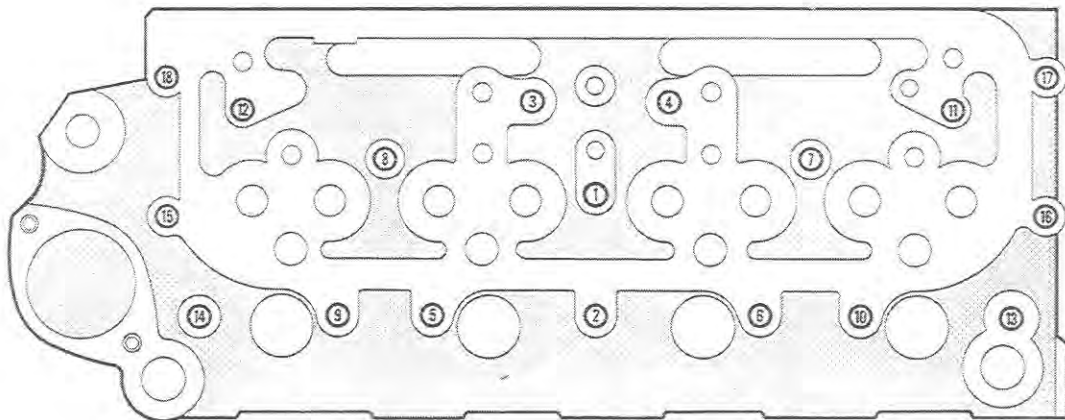

Fig. 2
- 3) Remove the cylinder head nuts in the reverse order of that shown in Fig. 2.
- 21) Remove the cylinder head holding nuts in the reverse order shown in Fig. 2.